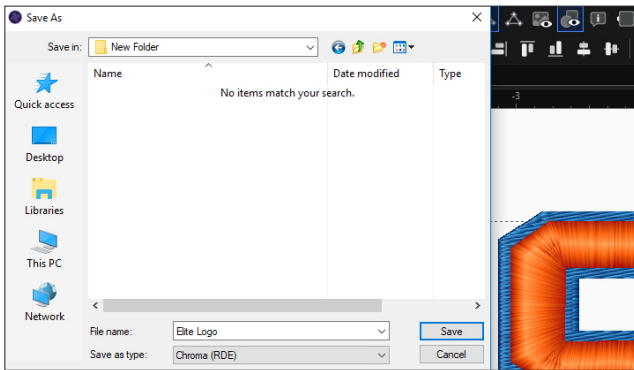

Figure 13
2. Save As, then select computer and click on hard drive. **See Figure 13.**